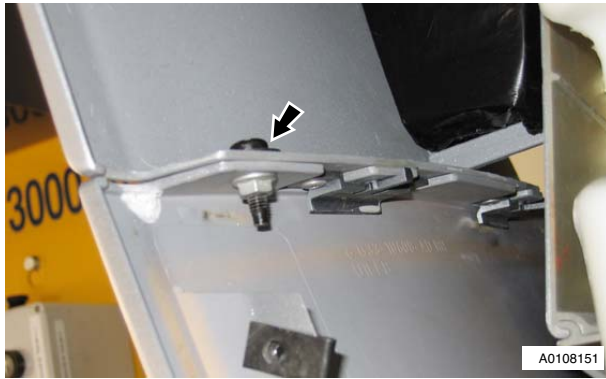

Figure 6
8. Remove nut and bolt, wing to sill (see Figure 6).